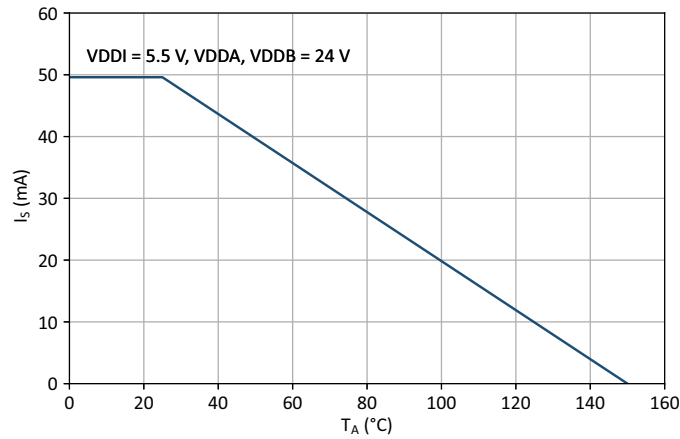

Figure 38. WB SOIC, NB SOIC, LGA-14 Safety Current vs. Ambient Temperature Derating Curve
1. Maximum value allowed in the event of a failure. Refer to Figure 38 for the thermal derating curve.